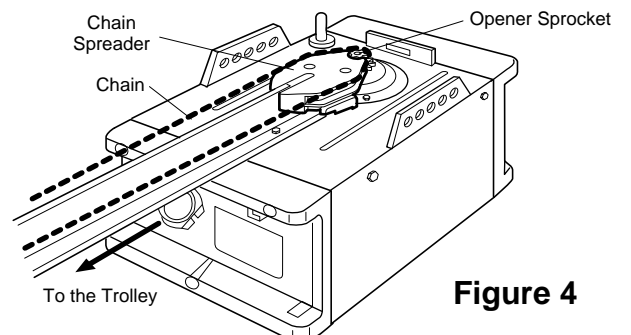

Figure 4
- Continue dispensing the chain forward to the trolley. See Figure 4. Reconnect the trolley threaded shaft to the trolley. Proceed to page 7 for chain tensioning instructions.